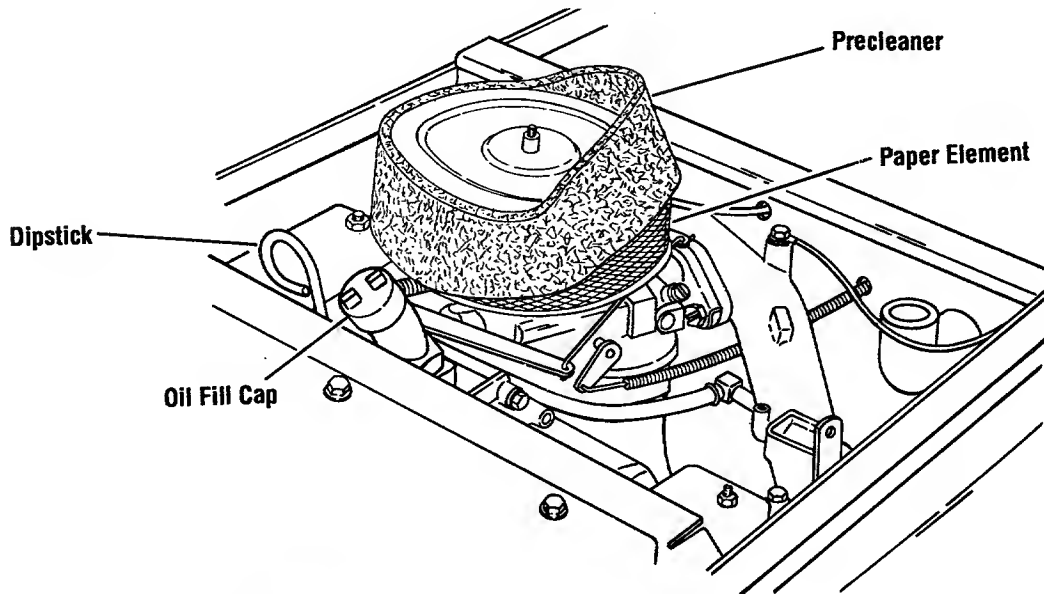

Fig. 7-1
1. Clean area around dipstick (Fig. 7-1) so dirt does not fall into crankcase when dipstick is removed.
Add oil: Remove the oil fill cap (Fig. 7-1) and add oil.
Disassembly: Clean off dirt from around air cleaner. Remove cover. Remove precleaner (Fig. 7-1) and paper element.
Paper element: (Fig. 7-1) Under normal conditions, disassemble and service paper element every 100 hours of operation.